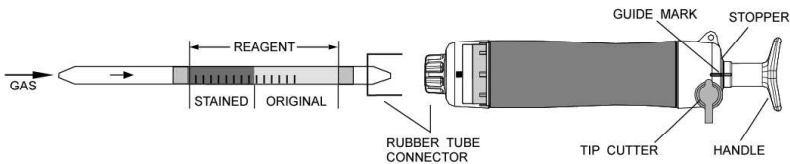

Fig.1
- ② Insert the detector tube into aspirating pump securely as shown in Fig.1. (Arrow mark shall point to the pump.)
- ③ Align the guide marks on the shaft and stopper of the aspirating pump.
- ④ Pull the pump handle at full stroke until it locks and wait for 1.5 minutes or until the completion of sampling is confirmed with the flow indicator of the pump (See descriptions about the flow indicator in the instructions of the pump).
- ⑤ On completion of sampling, read the scale at the maximum point of the stained layer.
- ⑥ In case of 5 pump strokes: After the above step ④, push the handle without removing the detector tube from the pump inlet, turn it right or left by 1/5, and repeat the step ④ and this pushing procedure another three times.
- ⑦ On completion of 5 pump strokes sampling, read the scale at the maximum point of the stained layer and then multiply the reading value by 1/5.
- ① Temperature; No corrections is necessary